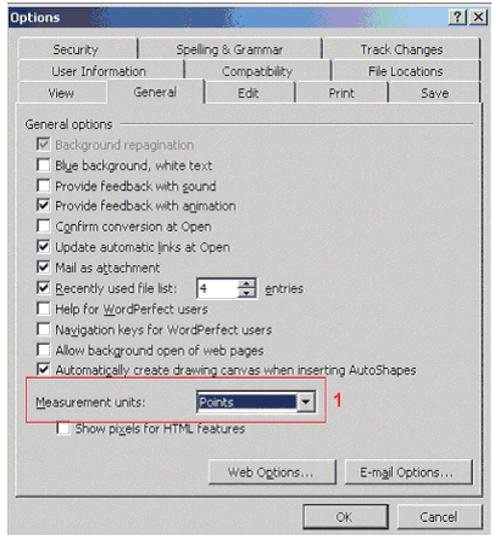

Fig. 1
2. Because Excel uses pixel measurement instead of inches, you will want to set this to match in Word. Go to **Tools >>> Options** to bring up the property sheet for Word. Click on the **General** tab, and locate the option to change the unit of measure. See Fig. 1. Change it to **Points** as this is the same as pixel.
2. First, format the cells to match the size of label you have. Click on the upper left corner of the spreadsheet to highlight the entire document. See Fig. 1.